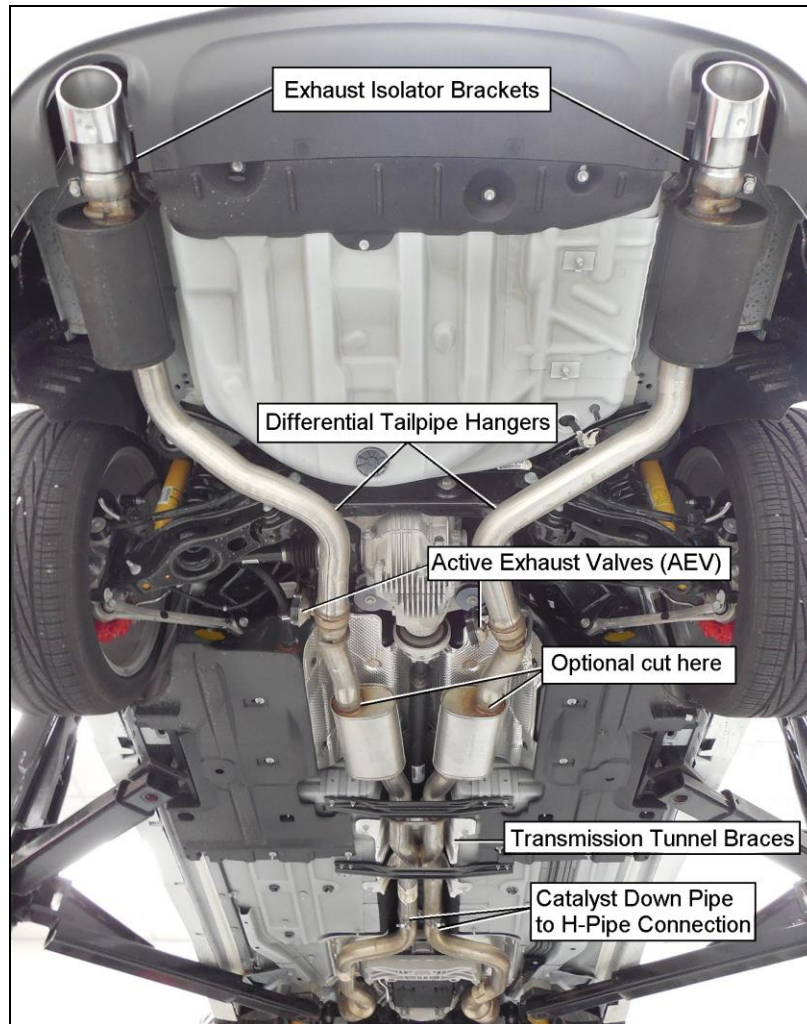

Figure 1
2. Support the left and right muffler assembly. Remove the bolts at the isolator brackets on the left and right tailpipes. Remove the bolts at the isolator brackets on the left and right differential hangers (See **Figure 1**)
3. Loosen the clamps on the H-Pipe where it connects to the catalytic converter down pipes and spray the connection with WD-40® (**Figure 1**).
NOTE: Cutting the tailpipes at the resonator will make removal much less difficult, but is not necessary (Figure 1**).**